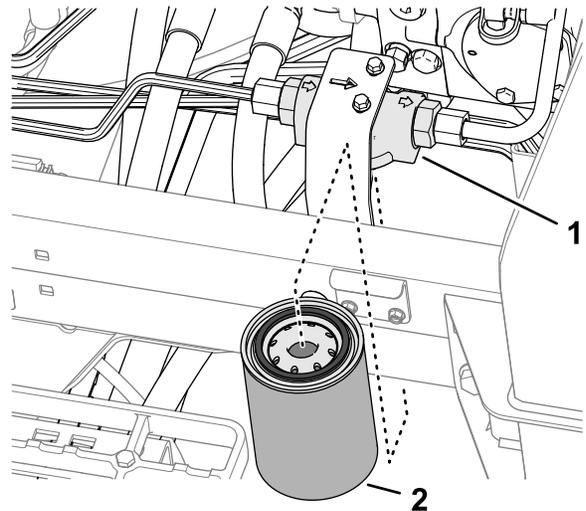

Figure 115
3. At the left side of the machine, align a drain pan under the charge filter (Figure 115).